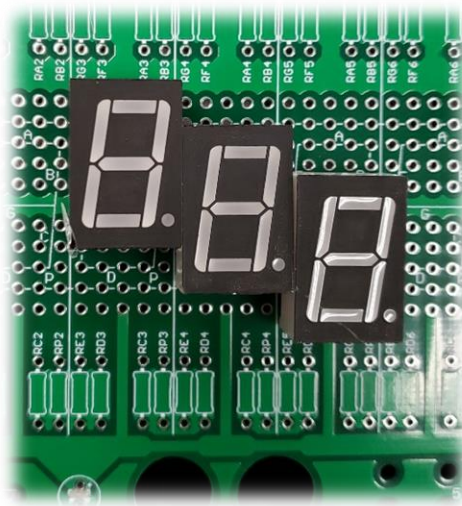

Figure 3 – LED segments installed offset vertically.
Step 1a. Solder a 7-Segment LED in one of the 7 locations on the PCB. Note: Each LED digit can be installed in one of 5 different vertical positions to allow vertically offset characters. See Figure 3.